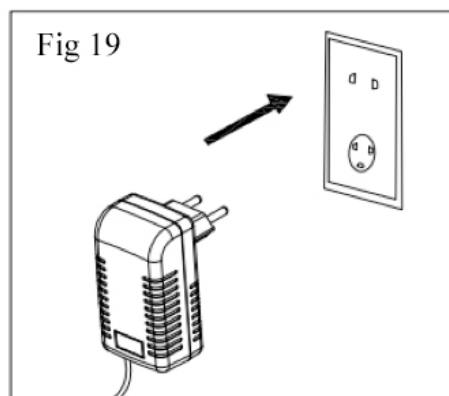

Fig 19
4. Plug the charger's power cord into 120V wall outlet (Fig 19)